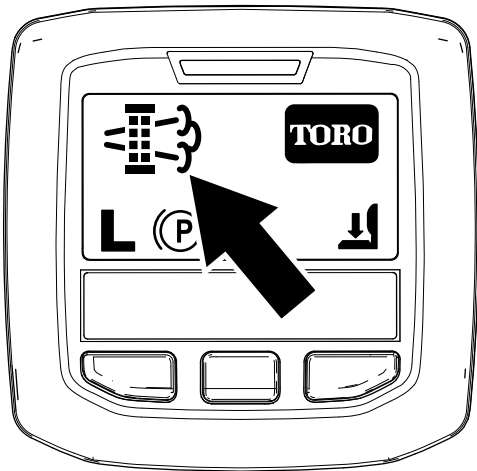

Figure 80
- When the engine computer requests either a parked regeneration or a recovery regeneration, the regeneration request icon (Figure 80) displays in the InfoCenter.